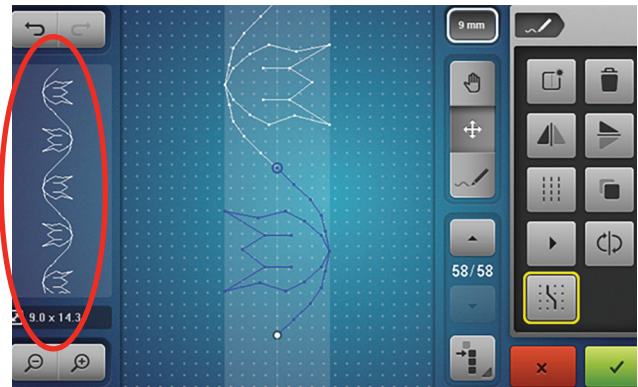

Fig. 32
13.  Tap the Select a Single Point icon (Fig. 32).